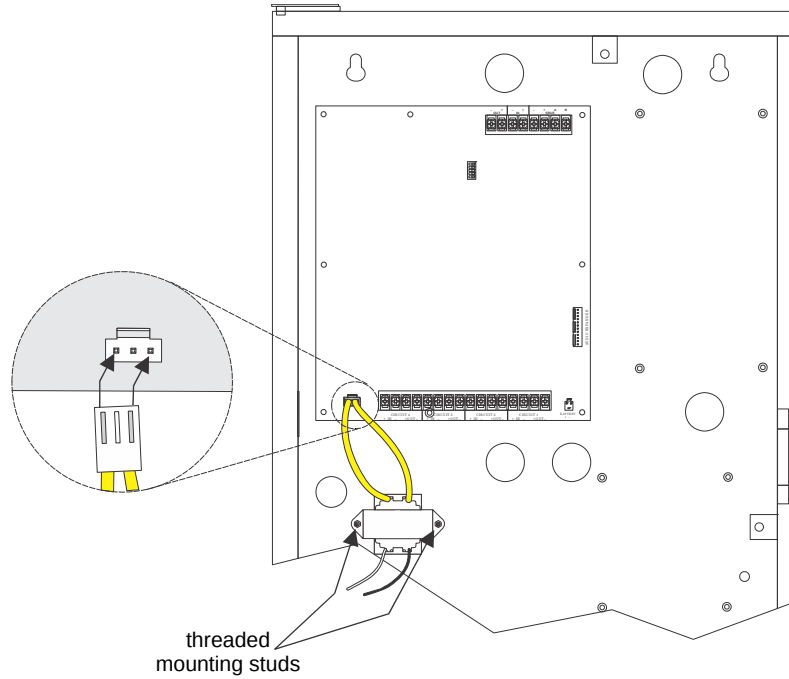

Figure 4.17 Transformer Mounting
3. Mount the transformer onto the threaded cabinet transformer mounting studs using the supplied locking hex nuts as shown in Figure 4.17.